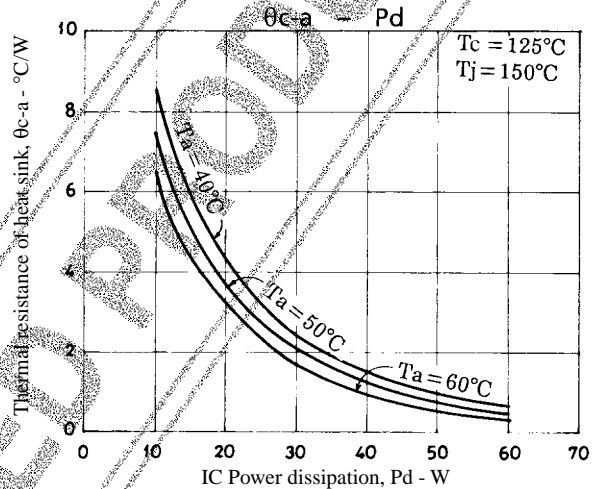

Figure 3. STK4102II θc-a – Pd
Figure 3 shows the relation between Pd and θc-a given from (1) and (3) with Ta as a parameter.
The thermal resistance of a heat sink is obtained from Figure 3.